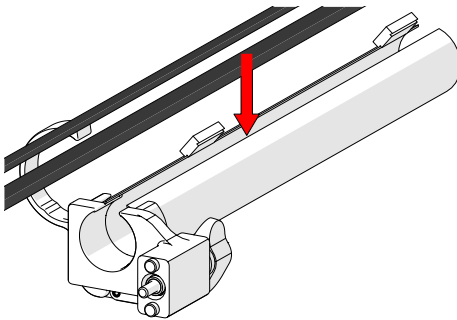

Fig. 260 - Insert cables and hoses
1. Open the cable management tube. Begin at the clamp end and start placing the cabling in the tube (Fig. 260).